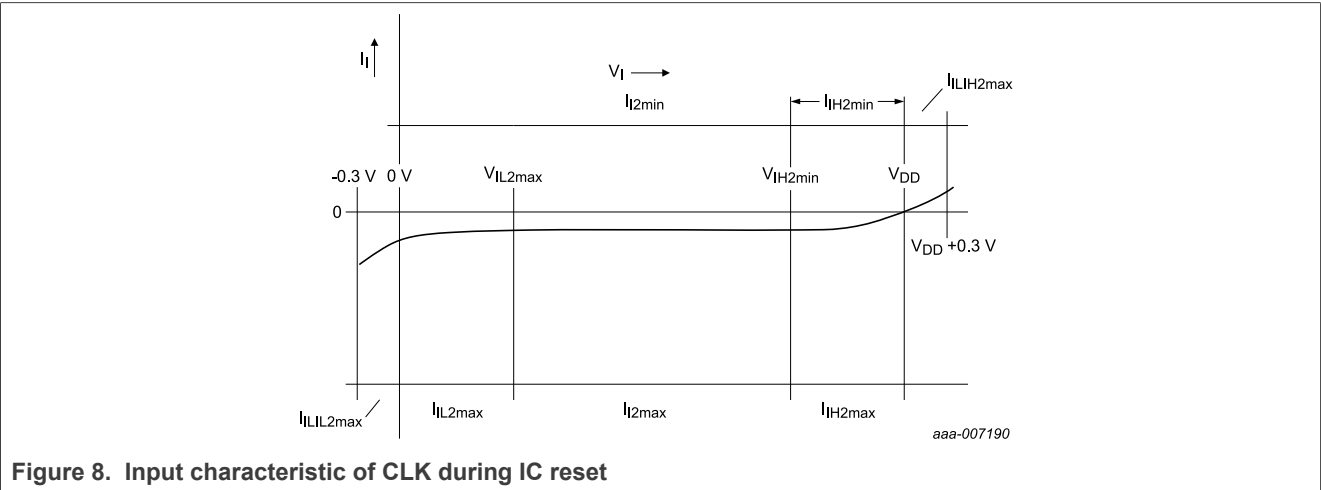

Figure 8. Input characteristic of CLK during IC reset
- [2] The CLK input internally has a resistive pull-up device to VDD activated during IC reset. Accordingly a current is flowing out of the pad at voltages below  $V_{DD}$ . Figure 8 shows this input characteristic.